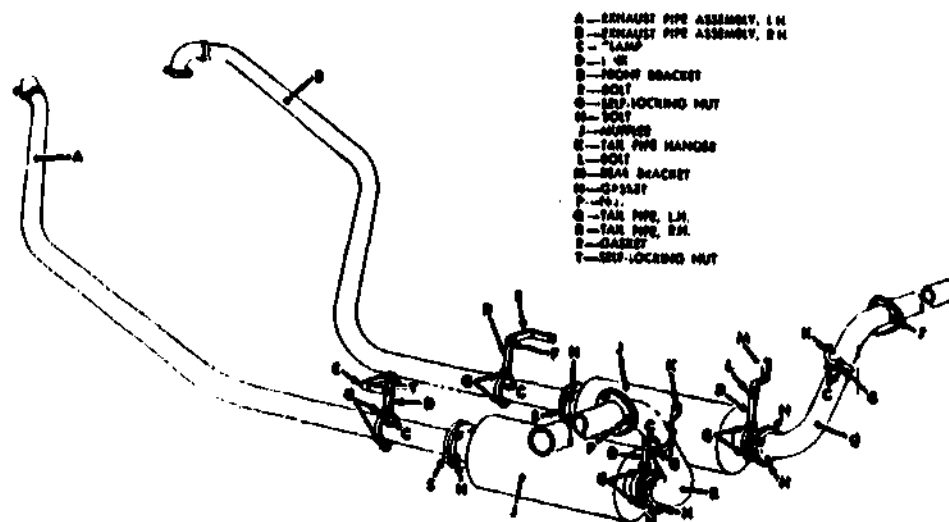

Fig 5-14. Dual exhaust system
a. Dual exhaust system (fig 5-14). The dual exhaust system permits the exhaust gases to travel in a straighter path to the rear of the vehicle; therefore, the dual exhaust system causes less back pressure than the single and is desirable for best engine performance. However, the additional parts that are required make dual exhaust systems more expensive than single exhaust systems.